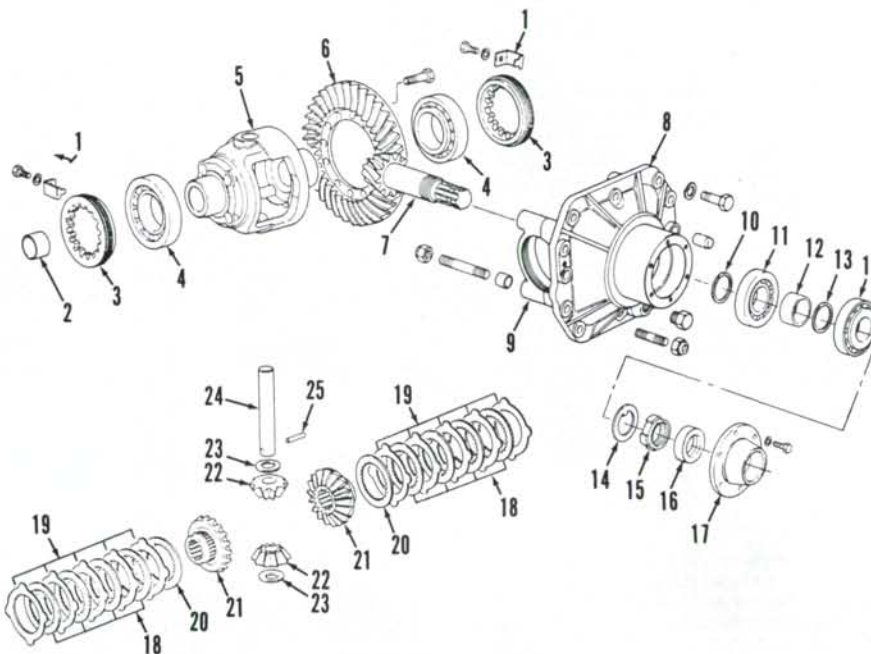

Fig. 35—Exploded view of Carraro Type 709/19 front drive axle limited slip differential assembly.
42. OVERHAUL DIFFERENTIAL. Place differential assembly in a stand with flange end pointing downward. Put identification marks on bearing caps and carrier housing so caps can be reinstalled in their original positions. Remove adjuster locking plates (1—Fig. 35), bearing caps (9) and adjuster rings (3). Remove differential from carrier.
Correct end play is 0.03-0.20 mm (0.001-0.008 inch). End play can be adjusted by replacing 2.8 mm thick spacer (20—Fig. 35) with a 2.9 mm thick spacer plate. Renew friction plates if end play is still not within specified tolerance.
44. PINION SHAFT PROTRUSION AND BEARING PRELOAD. To set pinion shaft protrusion, install bearing cups in carrier housing. Install carrier bearing caps (9—Fig. 35) and tighten nuts to 198 N·m (145 ft.-lbs.) torque. Install bearing cones in carrier using a bolt, flat washers and nut (Fig. 38) to hold bearings in place. Tighten nut and bolt until bearing cones are difficult to turn.
To determine correct thickness of shims (10—Fig. 35) required to provide desired pinion shaft protrusion, use the
following calculations: Subtract diameter of shaft (B—Fig. 38) from depth gage measurement (C). Add this figure to one-half the diameter of carrier bearing bore (A). The result is dimension (E). Then subtract dimension etched on gear end of pinion shaft (dimension is in millimeters) from dimension (E). The resulting dimension will be correct shim (10—Fig. 35) thickness to install to properly set pinion shaft protrusion.